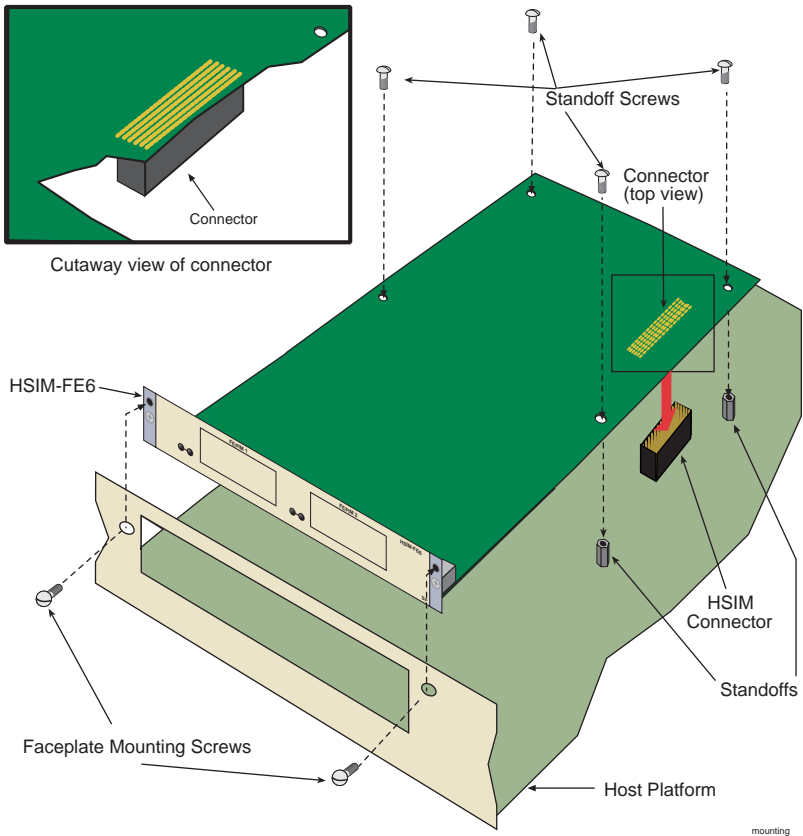

Figure 2-4 Installing the HSIM-FE6
6. Refer to Figure 2-4 and place the HSIM-FE6 behind the module faceplate.
- Refer back to Figure 2-4 and place the HSIM-FE6 behind the standalone device faceplate.